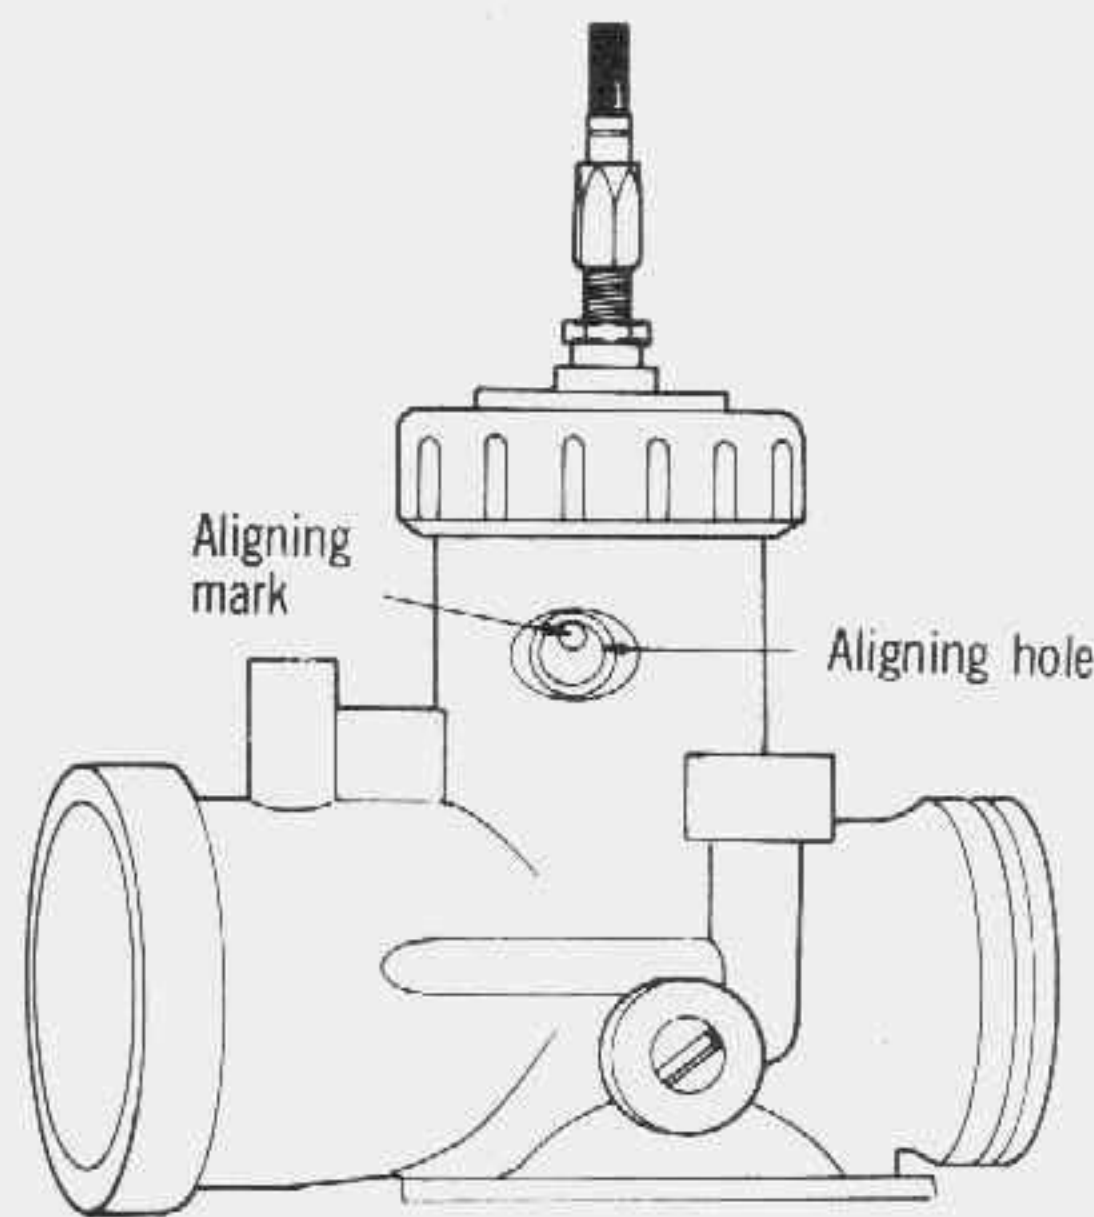

Fig. 6-4-3. Carburetor aligning marks
- 2) Wind up the throttle grip gradually and stop moving the grip just when an aligning mark on the side of throttle valve comes on upper end of the hole. Fig. 6-4-3.